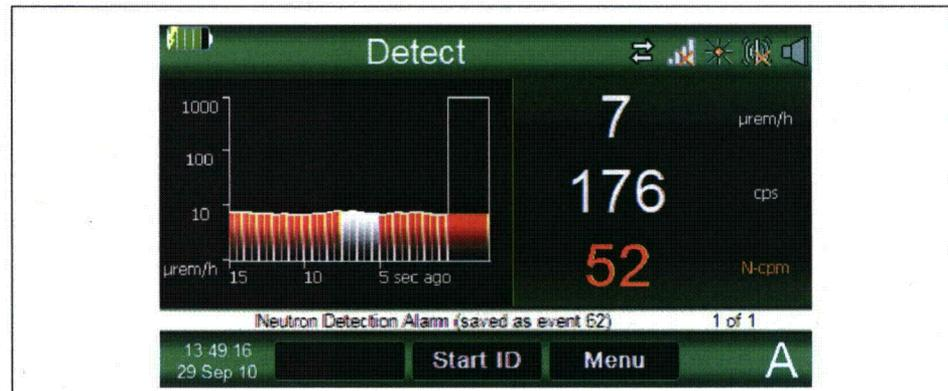

Figure 5-8 Neutron Alarm after Acknowledgement
1. Press enter to acknowledge the alarm. The system returns to the screen which was in operation when the neutron alarm occurred, which may be the Detect screen (see Figure 5-8) or menu screens.